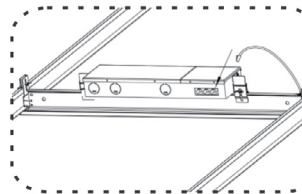

Figure7
7. Connect the connector(RJ45) from LED lighting unit to the output connector of Junction Box. (Figure7)